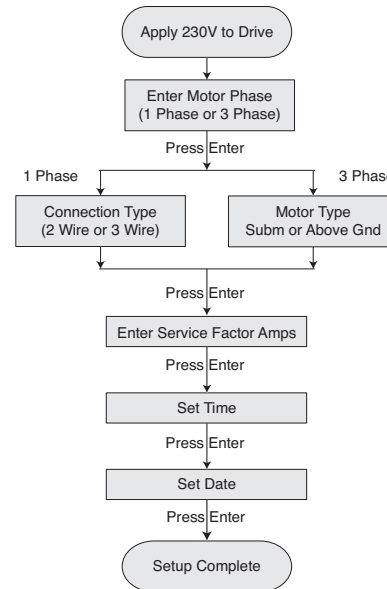

Figure 8-9: Intellidrive Setup Guide
1. Program the Intellidrive: Apply power to the device. Setup Guide will appear in the display. Follow keypress sequence shown in Figure 8-9.
4. The I/O terminals are located in the center of the wiring compartment (Figure 8-9).